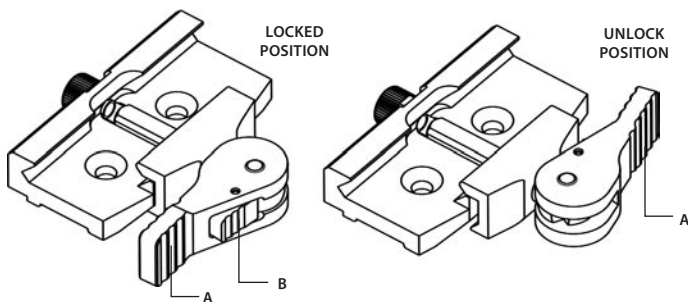

FIGURE 3-5. MOUNT. TOP VIEW
3. Unlock the clamping device of the CO-MINI mount by pushing down on the lever holder (B, Figure 3-5) and unlocking the cam lever (A).
5. Affix the CO-MINI to the rail by locking the cam lever (A, Figure 3-5).